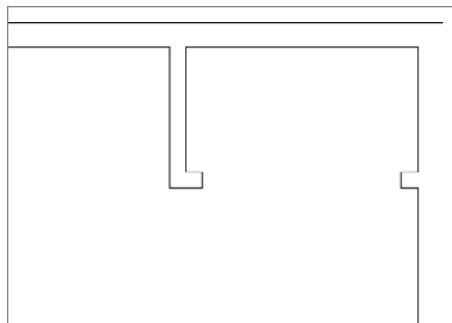

FIGURE 4.74 Pan the view to show the closet area.
3. Place the cursor near the upper jamb of the sliding glass door, and then click and drag the mouse downward until the drawing area shifts to display the closet area (see Figure 4.74).